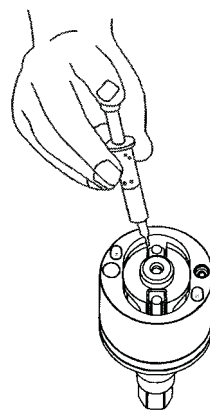

Fig.158
- 4.3 Fill up the interior pulse cylinder with the pulse oil about 90% full by a syringe. (Fig. 158)